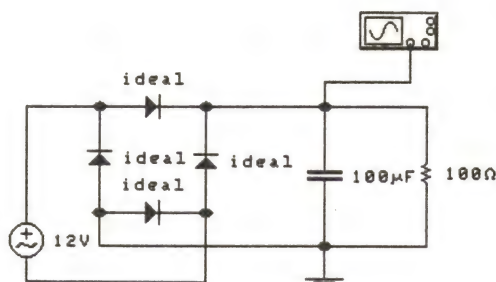

Fig. 3.32 Bridge rectifier with reservoir capacitor (Assignment 3.4).
5. Add a $100\mu\text{F}$ smoothing capacitor to the output of the bridge rectifier (as in Fig. 3.32). Once again display the output waveform and note its shape. Record the peak-peak ripple voltage in Table 3.4.